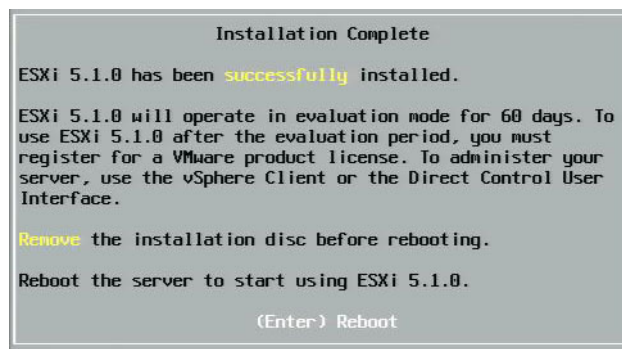

Figure 13-31. ESXi Installation Complete
8. After successful installation (Figure 13-31), press ENTER to reboot.